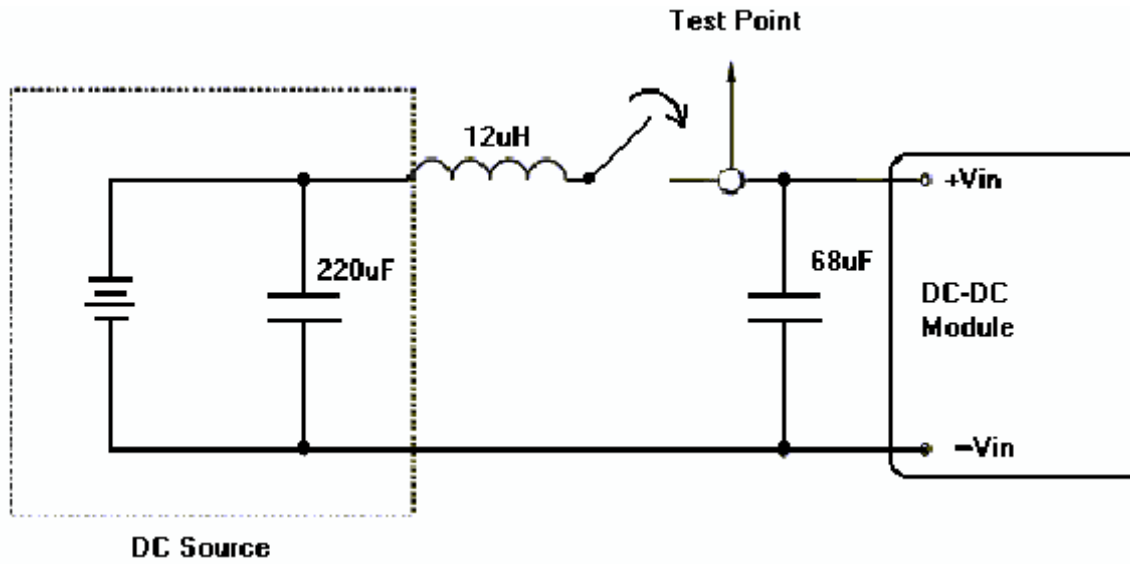

Figure 1. Input Reflected-Ripple Current Test Setup
2. External input capacitance required. See Figure 1 for the Input Reflected-Ripple Current Test Setup. Measure input reflected-ripple current with a simulated source inductance of 12 μ H.